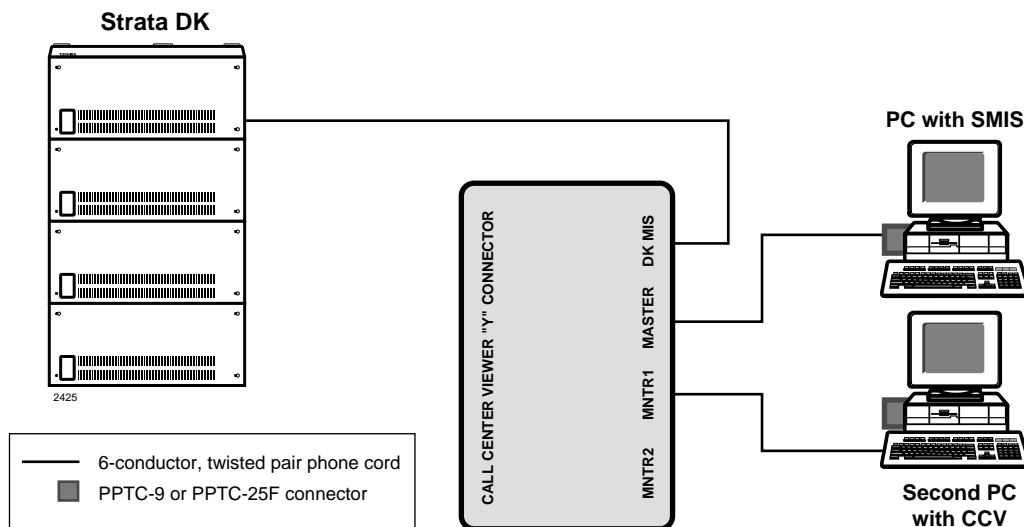

Figure 11-19 Connecting Strata DK to SMIS and CCV PCs
1. Install the CCVY connector into the Strata DK MIS port (RSIU, RSIS, RMDS, or PIOUS PCBs). See Figure 11-19.